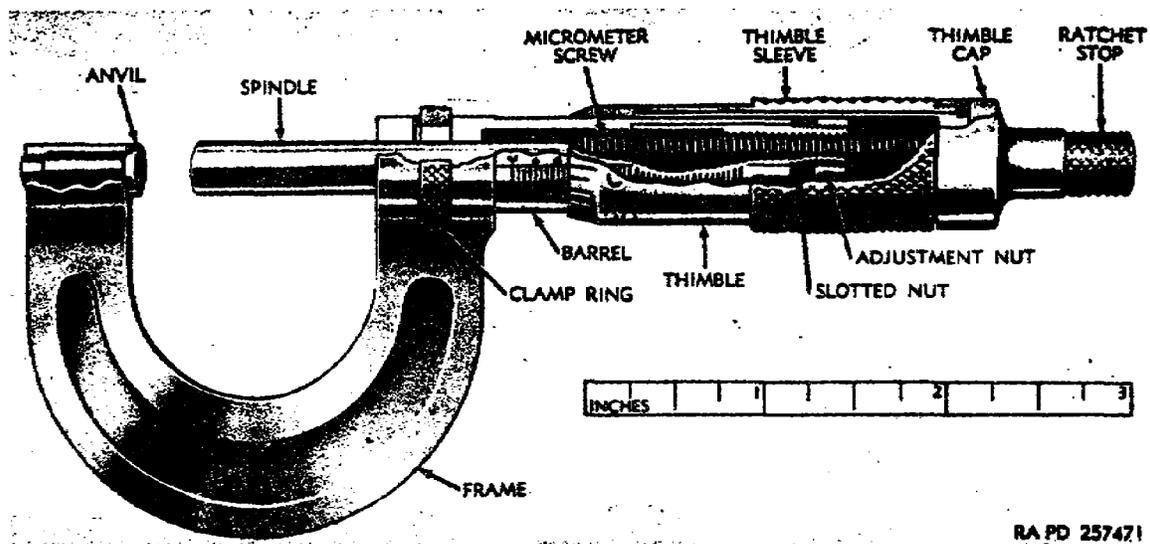

Figure 56. Micrometer, caliper, cutaway view.
1. The micrometer caliper (fig 56) is the most common type. It has a range of 0 to 1 inch and is graduated to read in thousandths of an inch or in units of the Metric system, from 0 to 25 millimeters by hundredths of a millimeter.
(a) Design. The micrometer (fig 56) makes use of the relation of the circular movement of a screw to its axial movement. The amount of axial movement of a screw per revolution depends on the thread, and is known as the lead. If a circular nut on a screw has its circumference divided into 25 equal spaces, and if the nut advances axially 1/40 inch for each revolution, then if it is turned one division, or 1/25 of a revolution, it will move axially  $1/25 \times 1/40$ , or 1/1000 of an inch. In the micrometer the nut is stationary and the screw moves forward axially a distance proportional to the amount it is turned. The screw on a micrometer has 40 threads to the inch, and the thimble has its circumference divided into 25 parts, so 1 division on the thimble represents an advancement of 1/1000 of an inch axially.